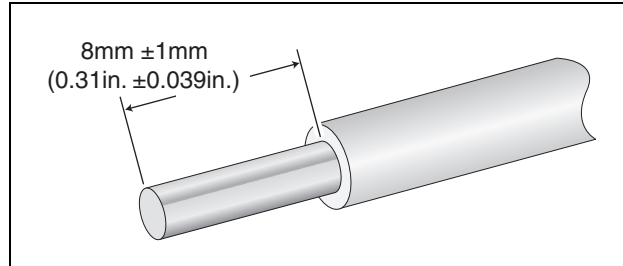

Figure 33. Stripped Wire
- With a 14-gauge wire-stripping tool, strip the three wires in the tray cable coming from the DC input power source to  $8\text{mm} \pm 1\text{mm}$  ( $0.31\text{ in.} \pm 0.039\text{ in.}$ ), as shown in Figure 33 on page 73.